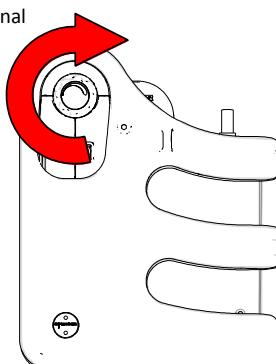

Fig. 20
- Occlude the patient end of the tubing, then adjust vacuum level from 50 to 550 mmHg by turning the vacuum regulator knob clockwise to increase and counter-clockwise to decrease the vacuum (fig. 20). Release and occlude once more to confirm setting. The desired level of vacuum can be viewed on the LED display (fig. 20).